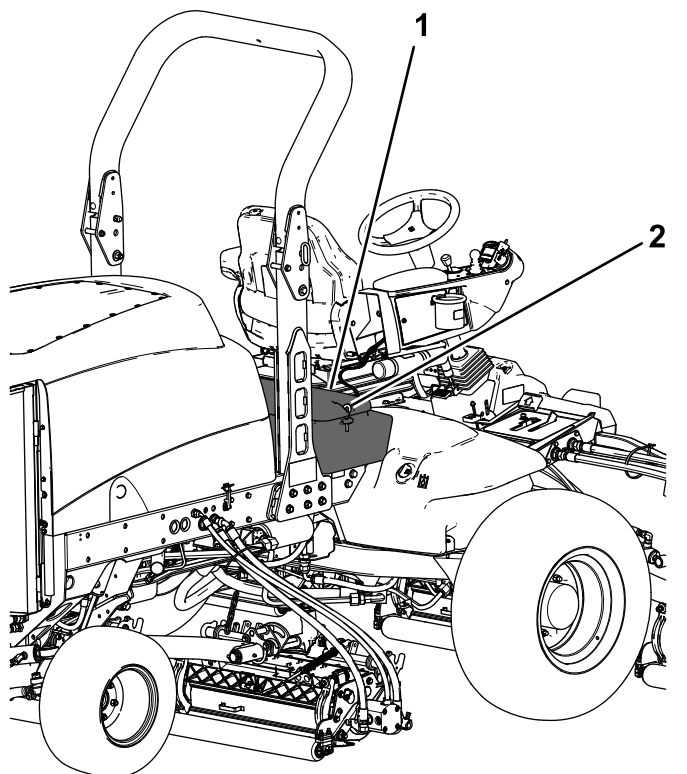

Figure 57
2. Unlatch and raise the operator's console panel (Figure 57).